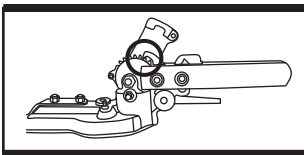

Fig. 16d
d). Release the unlock levers (C4) when the desired angle is adjusted. Ensure that the hook engages between two teeth of the tooth wheel. (See Fig. 16d)